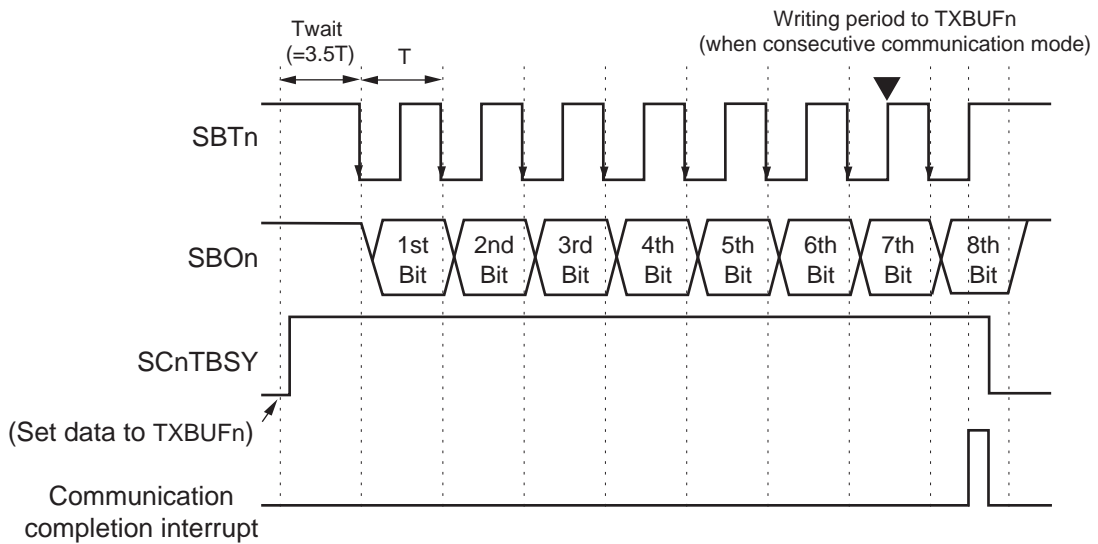
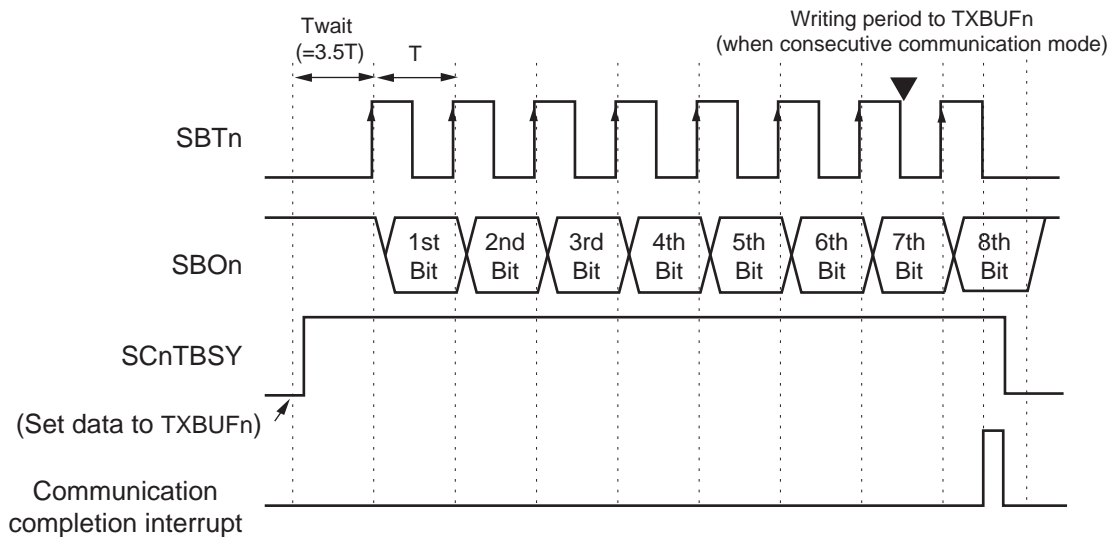
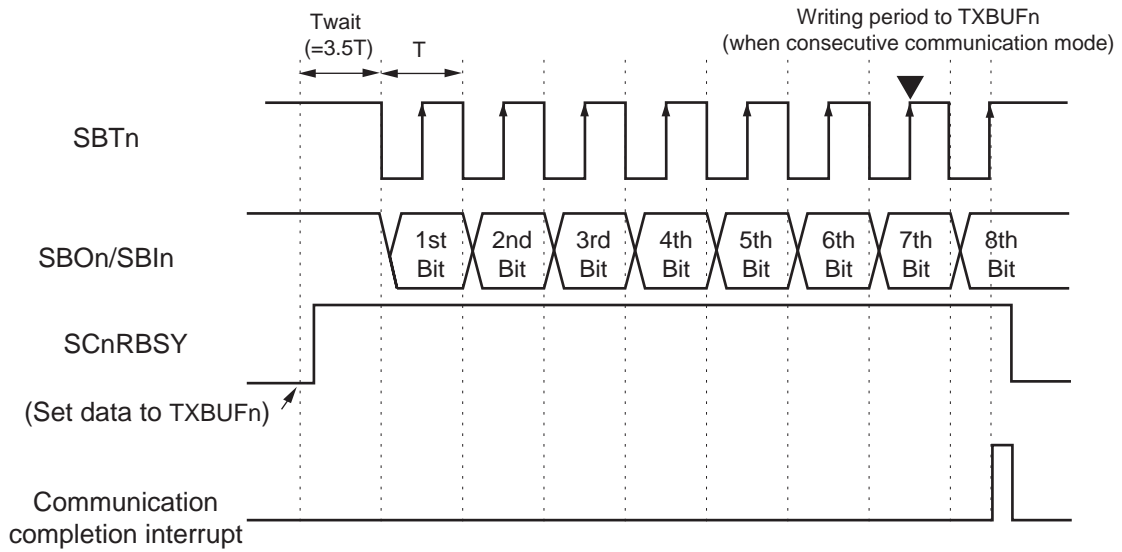
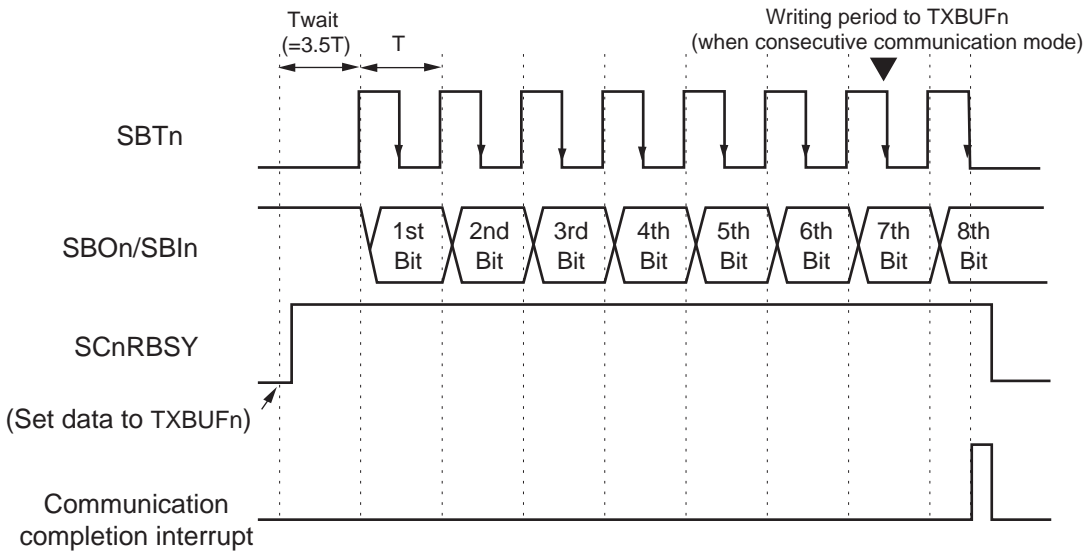

Figure:13.3.11 Transmission Timing (At Falling Edge, SCnCKPH bit = 0)
Figure:13.3.12 Transmission Timing (At Rising Edge, SCnCKPH bit = 0)
Figure:13.3.13 Reception Timing (At Rising Edge, SCnCKPH bit = 0)
Figure:13.3.14 Reception Timing (At Falling Edge, SCnCKPH bit = 0)
In this mode, when the next data is written to TXBUFn by the specified timing, the following communication is executed without a communication blank. To execute a communication without a blank, write the next data to TXBUFn before the 7th bit of data (1 byte) is received after the data in TXBUFn was read out to the transmission shift register (SCnTRB) and SCnTEMP changed to "0". (Refer to the "inverted triangle" sign of Figure:13.3.11, Figure:13.3.12, Figure:13.3.13, and Figure:13.3.14.) If this restriction is not satisfied, the communication blank occurs.
- (1) When writing the next data to TXBUFn by the time specified with "inverted triangle" sign in Figure:13.3.11, Figure:13.3.12, Figure:13.3.13, and Figure:13.3.14., the blank period of up to 4.5T (including Twait of 3.5T) is inserted between each byte data transmission/reception.
- (2) Other than the above (1), the blank period of up to 4.5T (including Twait of 3.5T) is inserted after writing the next data to TXBUFn